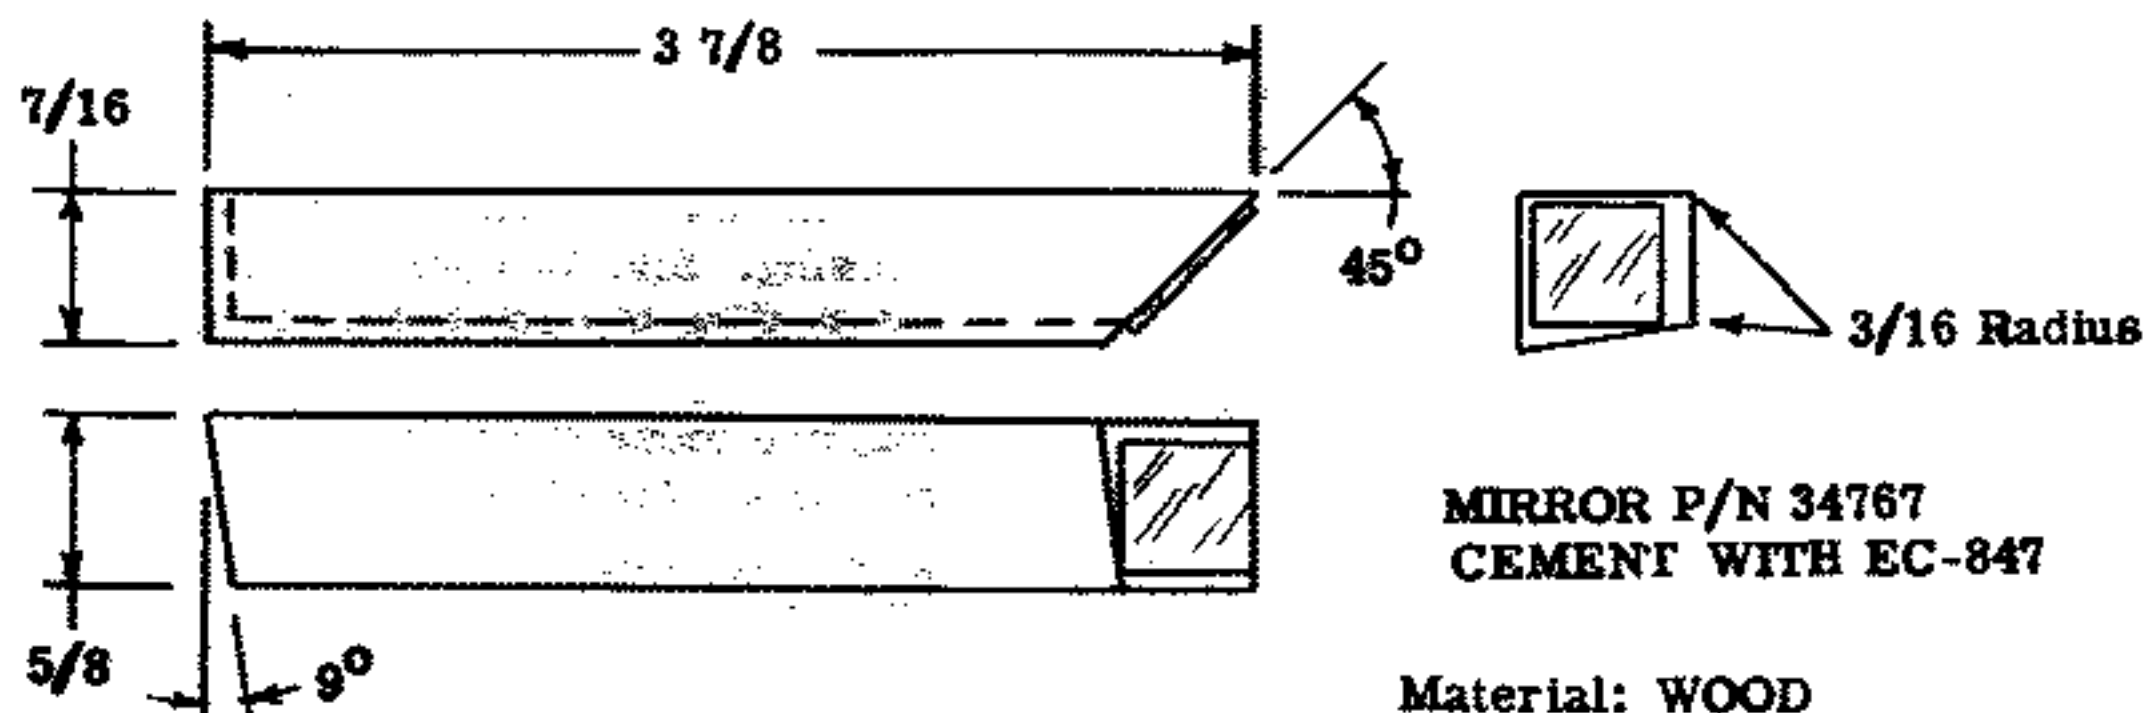

Figure 5 LAMP ALIGNING BLOCK
- Lamp aligning block (figure 5), used to simplify focusing of Rangelite.